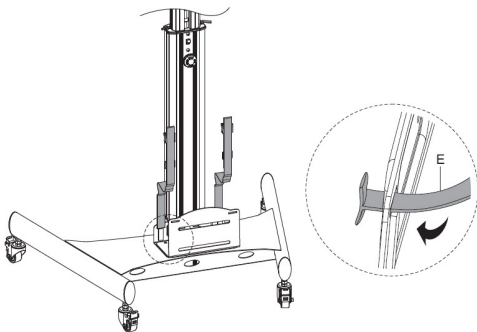

Figure 14
Push the t-shaped end of the **CPU Straps (E)** through the slots on the back of the **CPU Holder (D)**. (Figure 14)